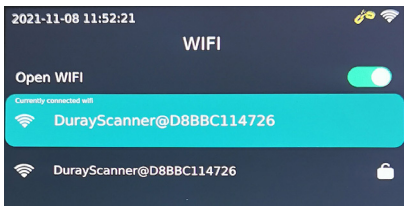

Figure 14
- d) Click the WIFI to connect, as shown in Figure 14